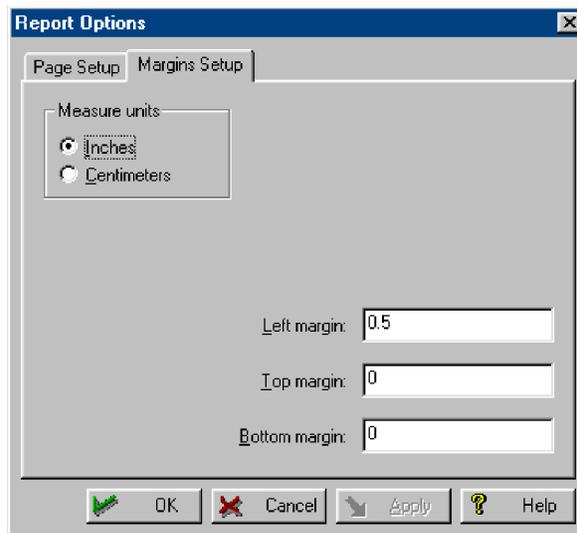

Figure 10.5 *Report Options dialog box: Margins Setup tab*
- 5 In the **Report Options** dialog box, click the **Margins Setup** tab (Figure 10.5).
- 6 Enter or select new options as described in Figure 10.5.